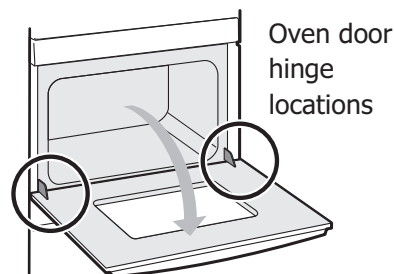

Figure 15: Door hinge location
1. Open oven door completely, horizontal with floor (See Figure 15).
3. Fully open the oven door, horizontal with floor (See Figure 15).